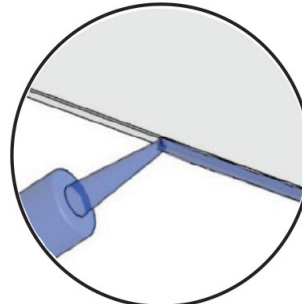

FIG 28.
- Remove shelf and put a thin bead of adhesive down both edges of shelf (**FIG 28**).